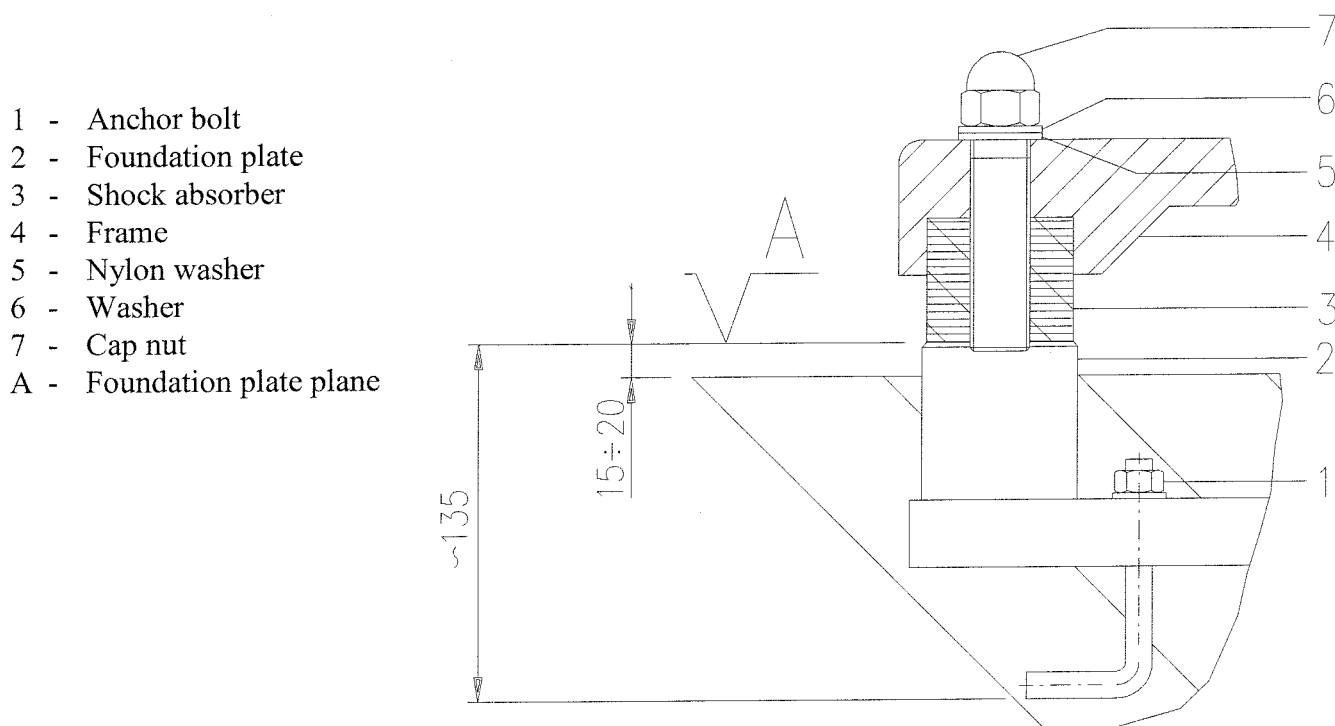

Figure 5.1
Fix the foundation plate to the floor with its four anchor bolts by means of a concrete casting, making sure that the plane (A) of the four supports is horizontal (fig. 5.1).